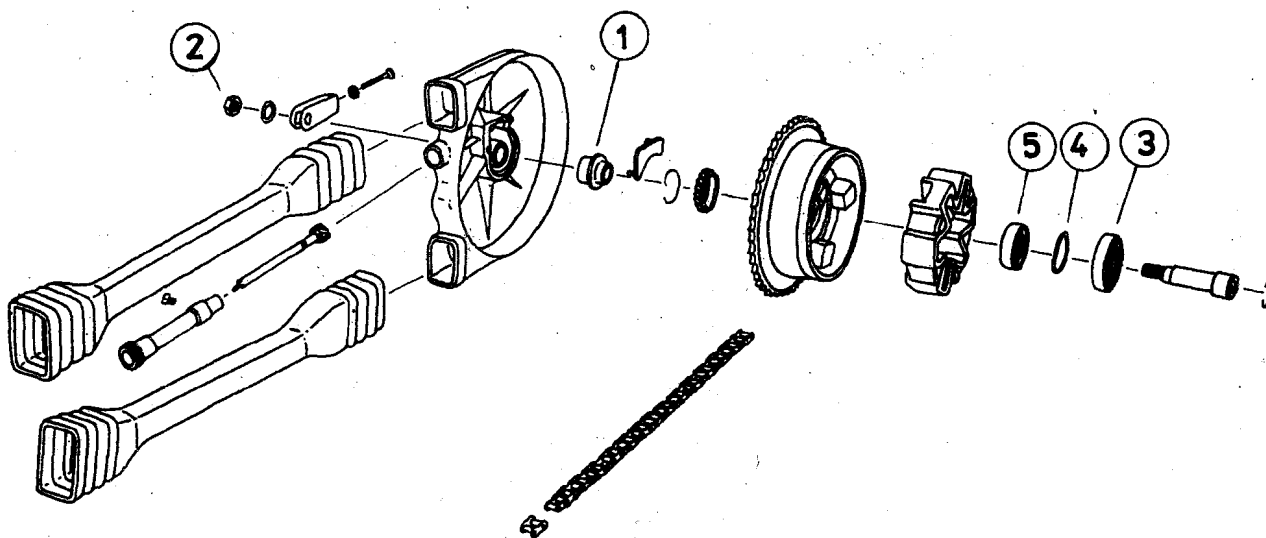
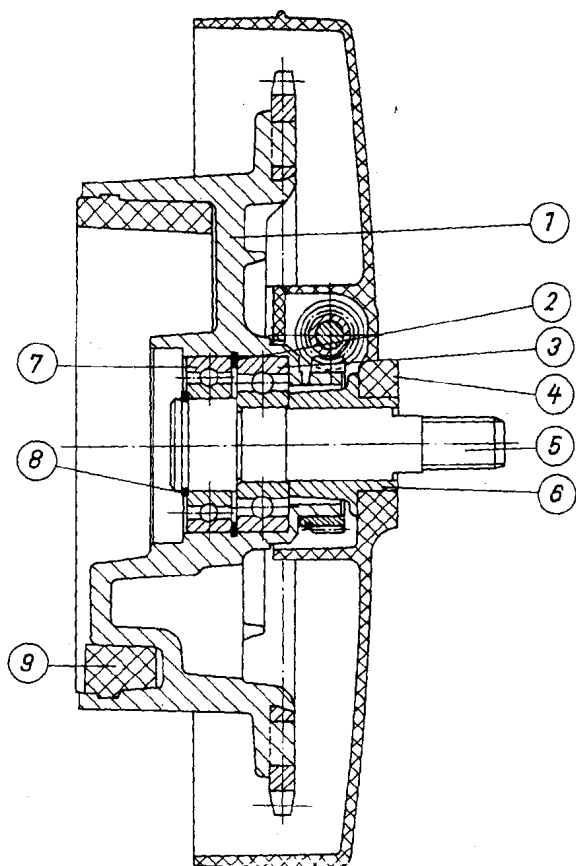

Fig. 117. Exploded view of the rear-wheel drive
Fig. 118. Rear wheel drive
The design of the rear-wheel drive is shown in the Figs. 117 and 118. In contrast to the previous type, two radial grooved ball bearings are incorporated in this type of rear-wheel drive (see Fig. 118).
The chain cover contains a through bush (1) which enables to tighten the nut (2) - see Fig 117 - with the maximum permissible torque without destroying the cover.
Then heat the rear wheel drive to about 100 °C. The 6005 bearing (3) can be pressed out by means of an offset screwdriver. Take out the lock ring 47 (4) and, finally, drive out the 6204 bearing (5) (Fig. 117).